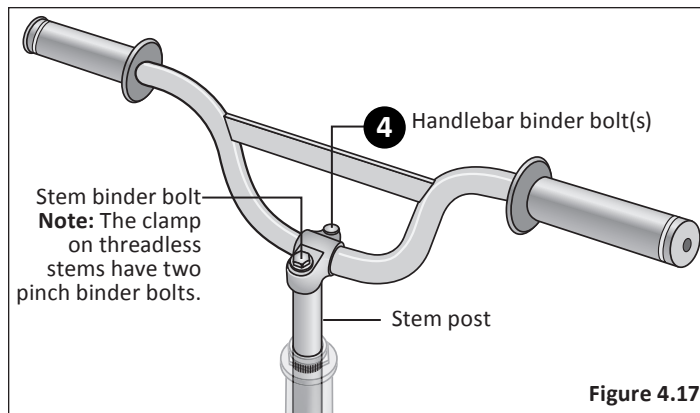

Figure 4.17
- 2 Using a 6 mm Allen wrench, loosen the stem binder bolt, or pinch binder bolts, and move the handlebar left or right until it is aligned with the front wheel. **Figure 4.17**
- 1 Using a 6 mm Allen wrench loosen the handlebar binder bolt(s). **Figure 4.17**